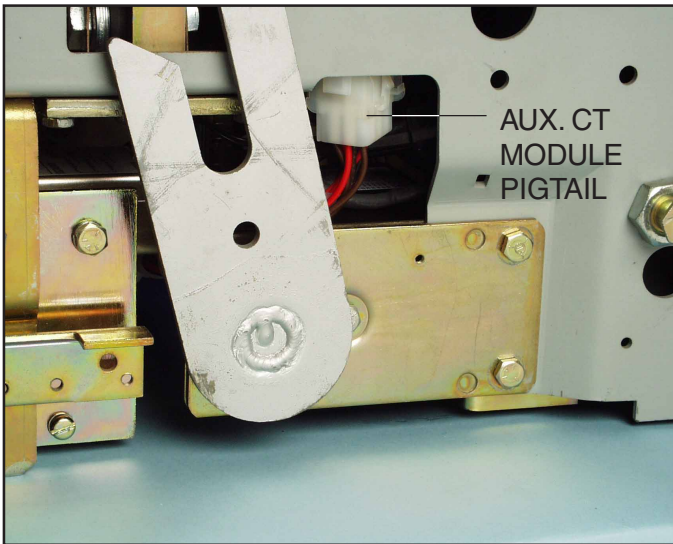

Fig. 20 Correct Location of the Aux. CT Module Pigtail.
- L. Remove and scrap the two (2) bolts, washers, and nuts from the right front corner of the Breaker Shelf that secure the right Racking Pin Assembly to the Breaker.
- M. Set the Aux. CT Module near the bottom front right corner of the Breaker. Connect the Aux. CT Extension Harness to the Aux. CT Module Pigtail. Align the holes in the Aux. CT Module Mounting Bracket and the original Racking Pin Assembly, as shown, with the holes from which the bolts were just removed. Secure the original Racking Pin Assembly and the Aux. CT Module Assembly to the Breaker using the (2) .250-20 x 1.00" bolts, (2) flat washers, (2) lock washers, and (2) nuts supplied. As you are mounting the Aux. CT Module Assembly to the Breaker, insure that the Aux. CT Pigtail Connector is located as shown in Fig. 20 and that the Aux. CT Extension Harness is clear of all moving parts within the Breaker.